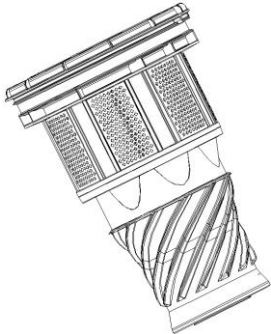

Fig.18
- 5) As in fig.18, take the filter out and tap it to remove the dust. If necessary, you can rinse it under water tap.